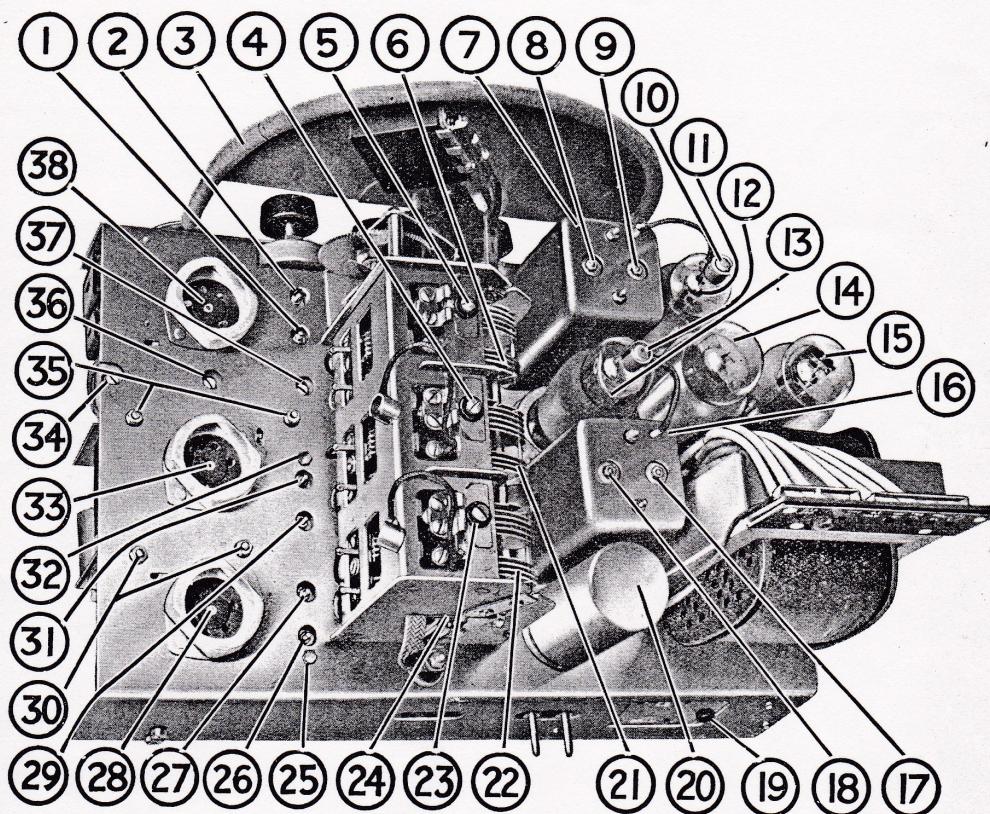

Fig. 1. Chassis illustration.
Provision is made for cutting out the internal loudspeaker when an external speaker is in use. This is effected by the insulated contact screw (indexed 19 Fig. 1) at the back of the chassis, which open-circuits the primary winding of the output transformer when unscrewed.
**Note:** All trimmers to which reference is made in the following sections are indicated on the chassis illustration (Fig. 1). *The metal end of the trimming tool used should be as small as possible.*